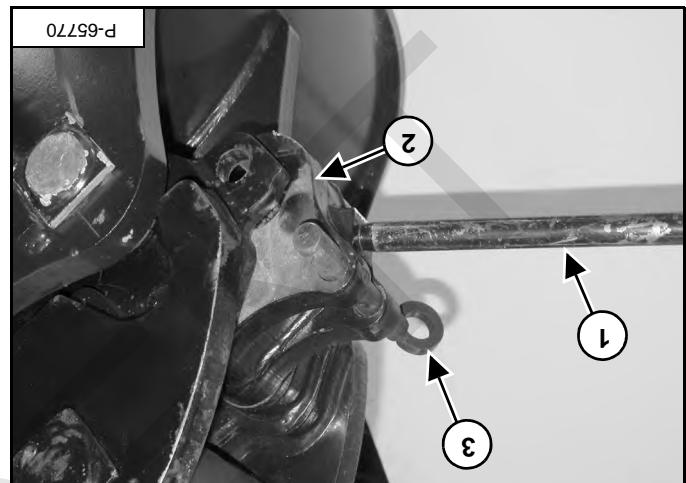

Figure 133
Using the release bar (item 1), rotate the locking hooks (item 2) upward to the unlock position and install the locking pin (item 3) [Figure 133].